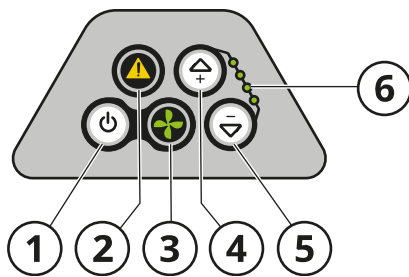

Fig. 19
See **Fig. 19**.
The fan is started/stopped with the Start/Stop button (1, **Fig. 19**) and operation is indicated by the operating indicator (3). To adjust the airflow, use the “increase” and “decrease” buttons (4 & 5). The selected flow is indicated by a LED bar (6).